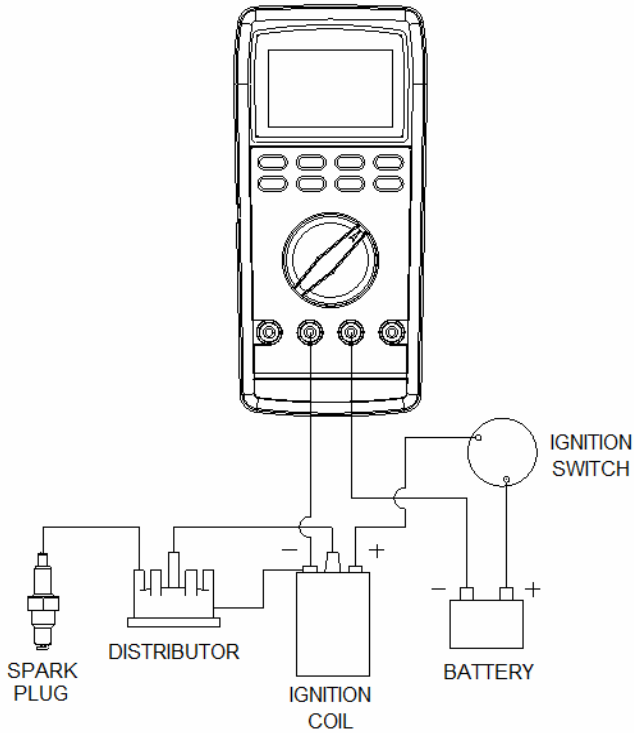

Fig. 5
- * The wire connection diagram please ref.(Fig. 5)